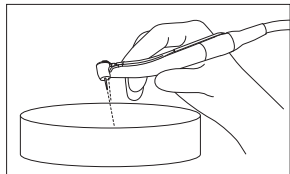

Fig. 12
3) Operate the handpiece while running clean water at maximum flow rate into the irrigation tube with the irrigation nozzle, at the chair-side for at least 20 seconds to purge fluids in the handpiece (Fig. 12). After the handpiece rotation has completely stopped, touch the handpiece head to confirm the head is NO heating abnormally. (Water temperature 38°C or less, drinking water level of water quality recommended)